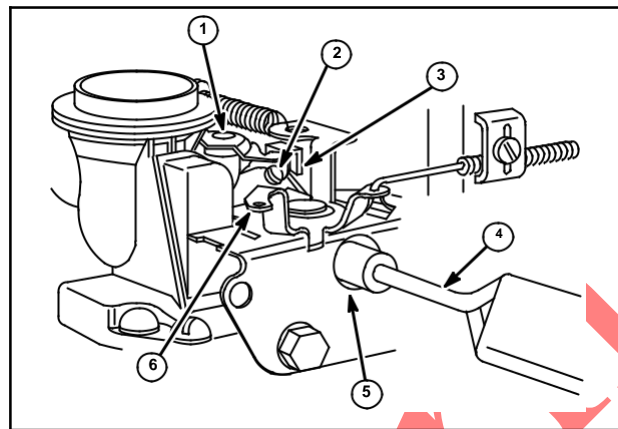

Fig. 57
1. Place governor speed control (6) lever in "FAST" position.
2. Using tool (4), turn needle valve (5) in until engine misses (clockwise – lean mixture) then turn needle valve out (counterclockwise) 3/8 turn, Fig. 57.
3. Rotate throttle (1) counterclockwise and hold against stop.
4. Adjust idle speed adjusting screw (2) to obtain 1750 RPM.